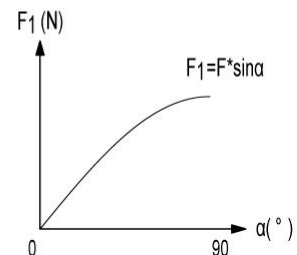

Figure 5
4. Move the gate to the fully open position, retract the gate arm fully, then temporarily secure the brackets to the gate and the post with two C clamps. Note that the mounting position should be as per Figure 5. Verify that the gate arm is level.
The position of Post Bracket is very important. The following illustrations and tables are required to determine the proper mounting position for the Post Bracket, with the gate in the closed position. The table in Figure 5 shows the maximum opening angle of the gate for a given A and B. For example, if A is 15cm and B is 20cm, the maximum opening angle of the gate is 110°.